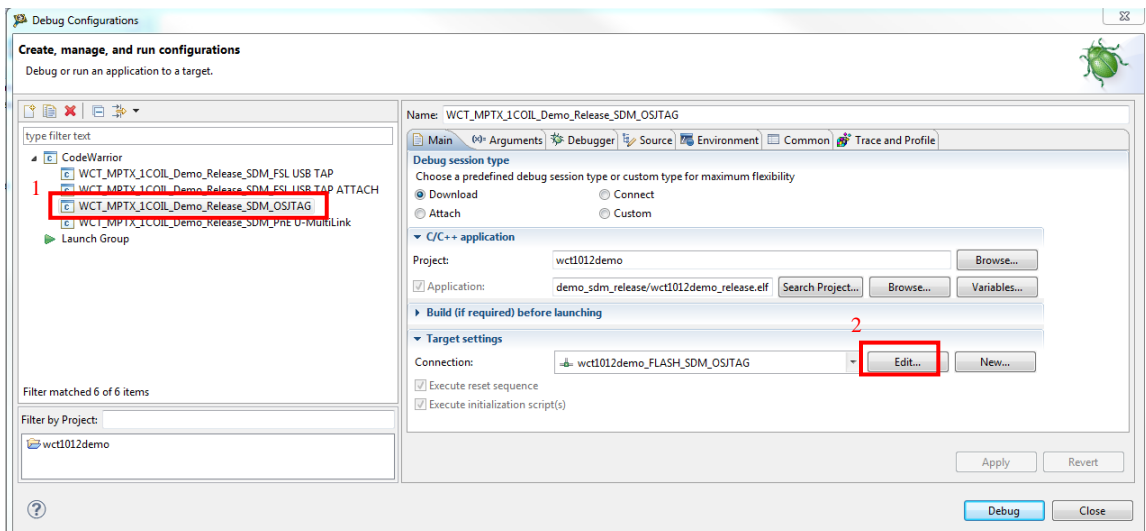
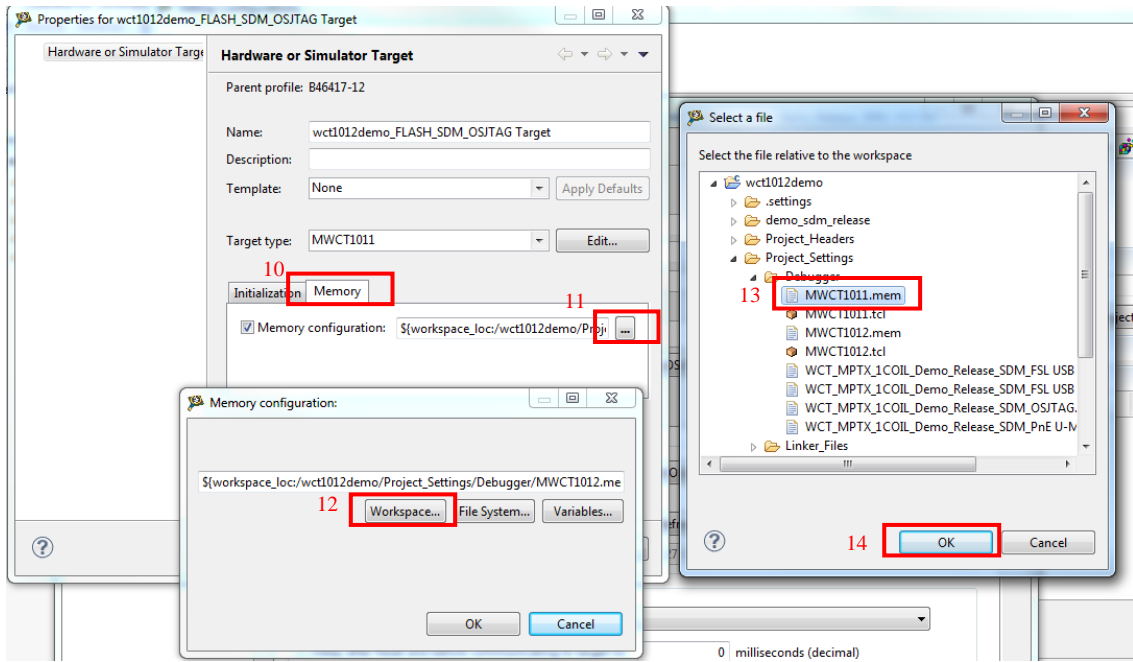

Figure 63. Changing the peripheral settings of debugger (1)
Figure 66. Change the peripheral settings of debugger (4)
- Replace the .mem and .tcl file in debugger configurations. Take “WCT_MPTX_1COIL_Demo_Release_SDM_OSJTAG” for example. The steps are as shown in Figure 63 to Figure 66.